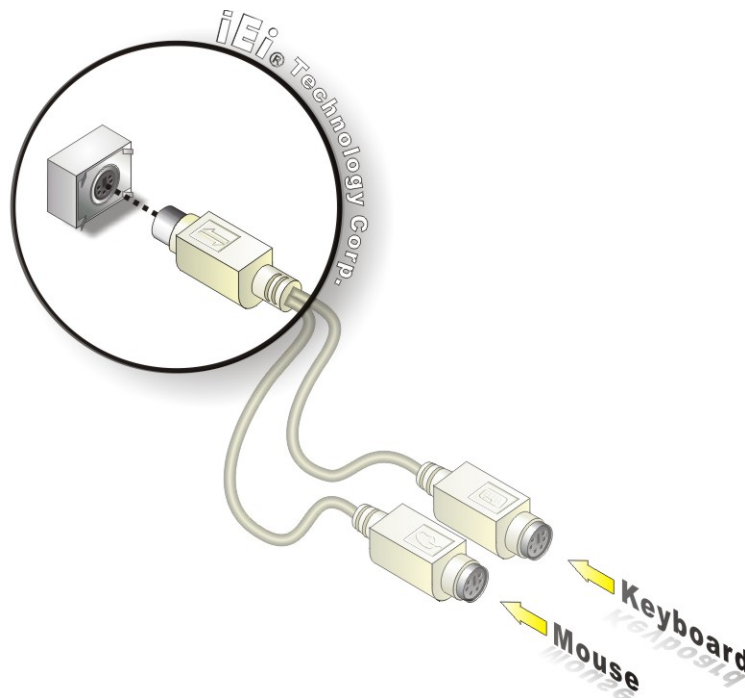

Figure 5-14: PS/2 Keyboard/Mouse Connector
Step 2: **Insert the keyboard/mouse connector.** Insert the PS/2 connector on the end of the PS/2 y-cable into the external PS/2 connector. See **Figure 5-14**.